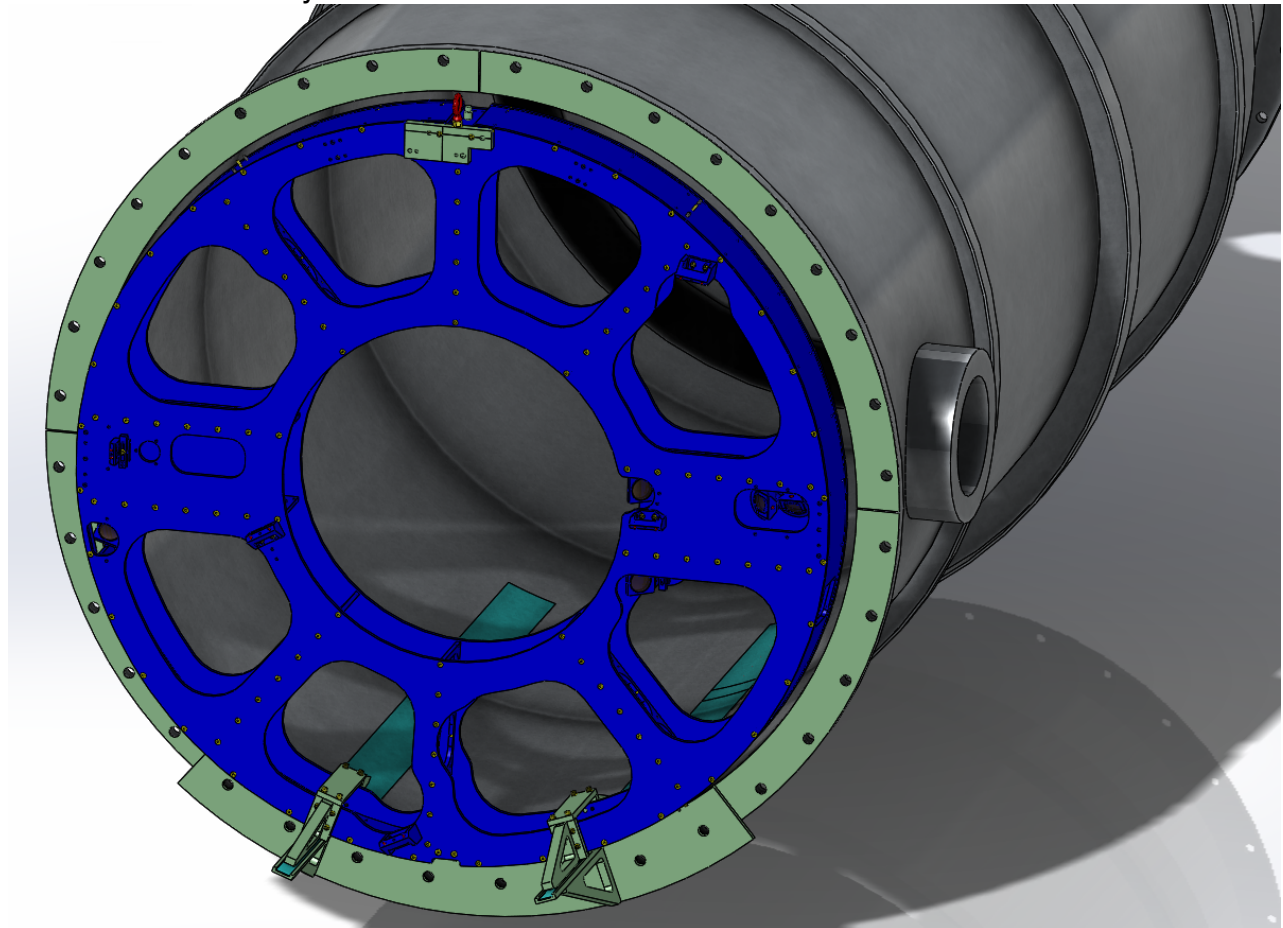

Figure 5: Periscope assembly with Periscope Stabilizing Slides & Bars attached
6. install Periscope Stabilizing Slide & Bar (D1300245 & D1300237, see Figure 5) on the Periscope Assembly.